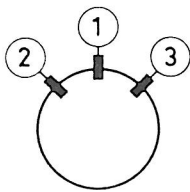

Fig. 4b
If the position of the deflection is correct, then place the wedges ② and ③ with paper strips removed, as shown in Fig. 4b or 5b. Firmly press the adhesive sides of these wigs against the glass of the picture tube.